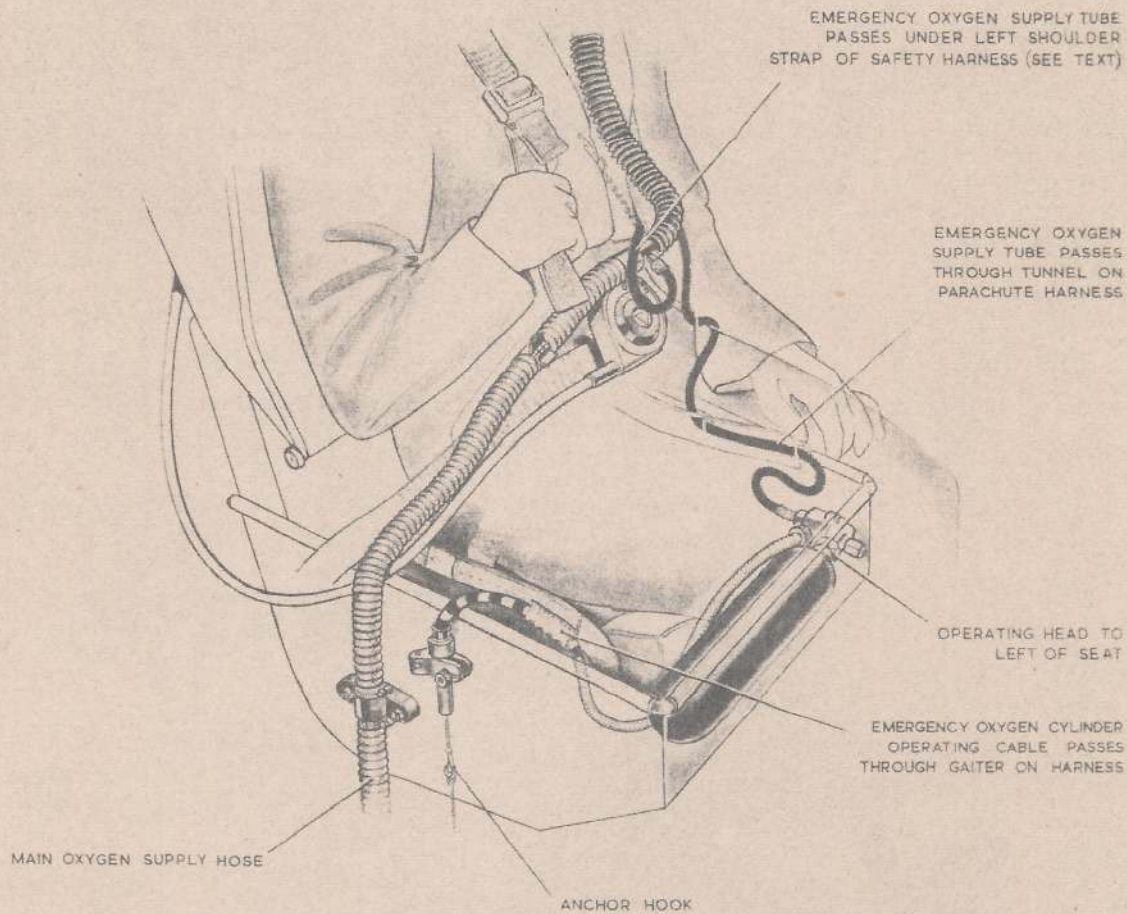

Fig. 3. Arrangement of oxygen supply on seat
10. When strapping-in, the following procedure is to be used; refer to fig. 3, 4, 5, 6 and 7 for detail, as necessary:-